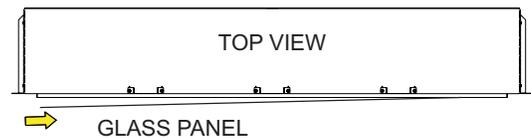

Figure 64
7. Replace the glass front into the fireplace by placing the right side into the slots in the firebox. Carefully angle in the left side of the glass and then slide the glass to the left. Settle the glass into the slots by gently lowering it. **See Figures 64 - 67.**